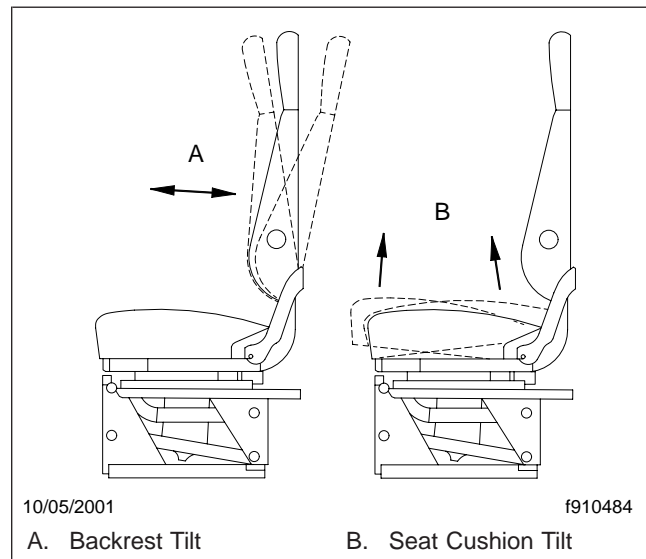

Fig. 5.8, Cushion Tilt Adjustments
5. Backrest Tilt: This adjustment pivots the backrest forward or backward (Fig. 5.8).
6. Seat Cushion Tilt: This adjustment raises or lowers the front and/or back of the seat (bottom) cushion. This adjustment is easier to perform when all weight is removed from the seat (Fig. 5.8).
7. Seat Tilt: When this adjustment is made, the seat assembly, both backrest and seat cushion, tilts forward or backward (Fig. 5.8).